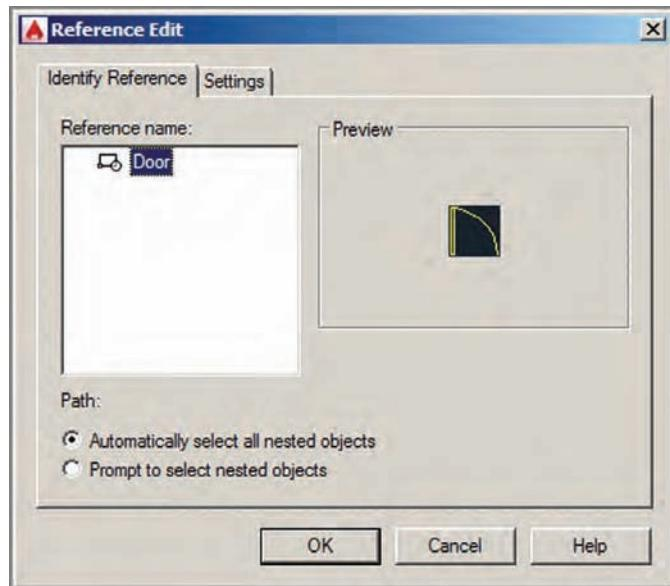

FIGURE 7.15 Editing a block reference in place
2. Select the door, right-click, and choose **Edit Block In-Place** from the context menu. Click **OK** in the Reference Edit dialog box that appears (see Figure 7.15).